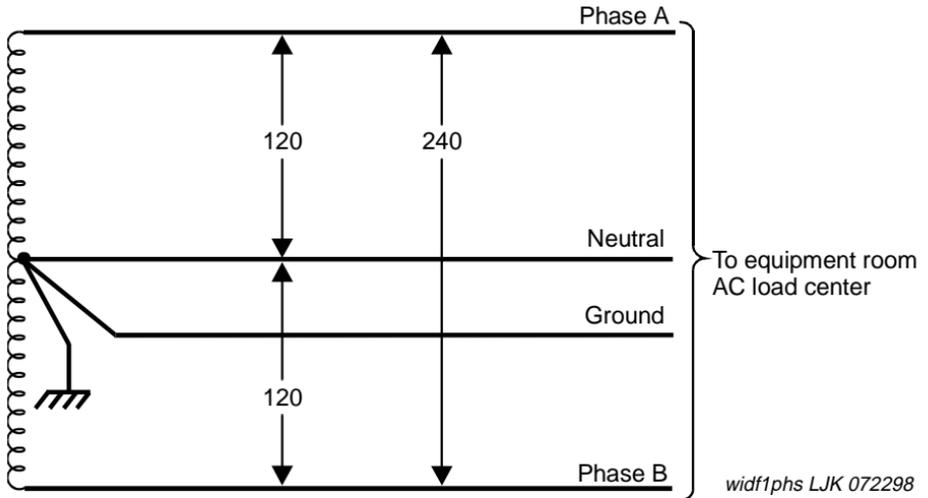

Figure 17. Single-Phase, 120/240 VAC, 60 Hz Source
- Single-phase, 4-wire, 120/240 VAC supplying 240 VAC. See Figure 17. This source has 3 hot wires plus 1 ground wire.